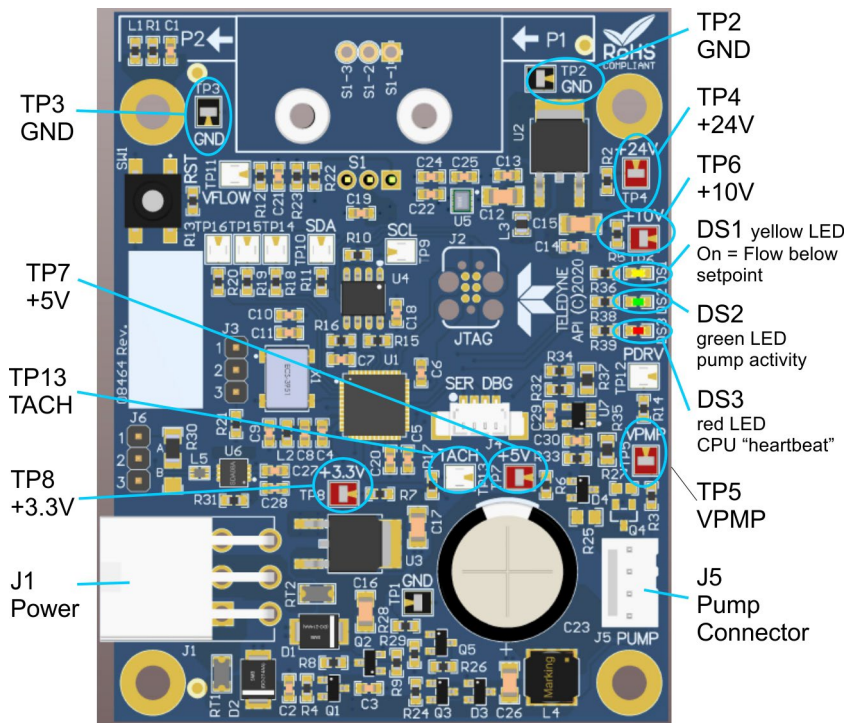
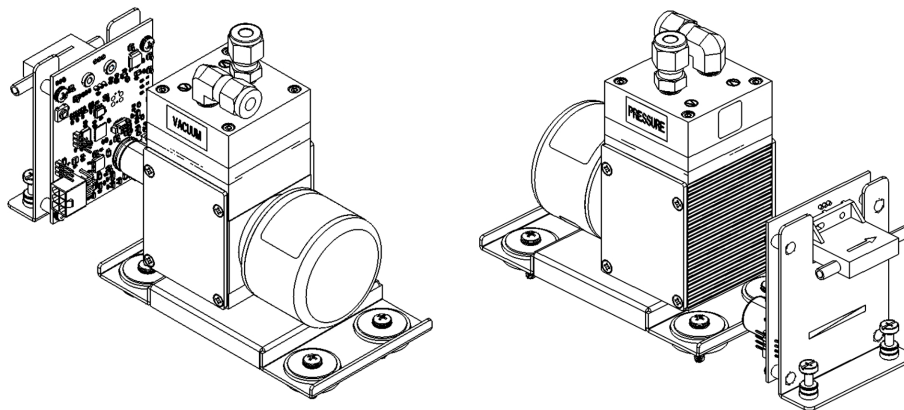
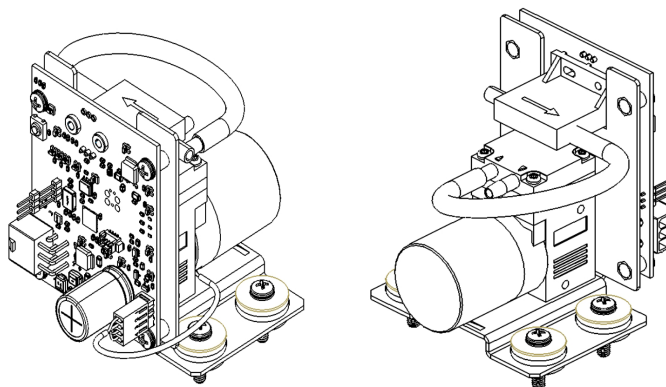

Figure 5-8. DC Pump Control Board LEDs
Figure 5-9. HD non-PID Controlled Pump
Figure 5-10. STD PID Controlled Pump
The unit displays a SAMPLE FLOW Alert, or the SAMPLE FLOW Dashboard function reports a zero or very low flow rate. The instrument has a controlled pump that is either HD non-PID (Figure 5-9) or STD PID (Figure 5-10), both of which are controlled by the same board (see Figure 5-8 for LED descriptions and Figure 5-13 for connectors).
1. Check that the communication/activity LEDs on the pump board (Figure 5-8) are illuminated and/or blinking. If not, check power to board via its test points.
2. If pump board LEDs are active and pump is not operating, check the “Pump Control Mode” VAR and make sure its setting is either PID (for the PID controlled pump, Figure 5-10) or Constant (for the larger orifice flow controlled pump, Figure 5-9).